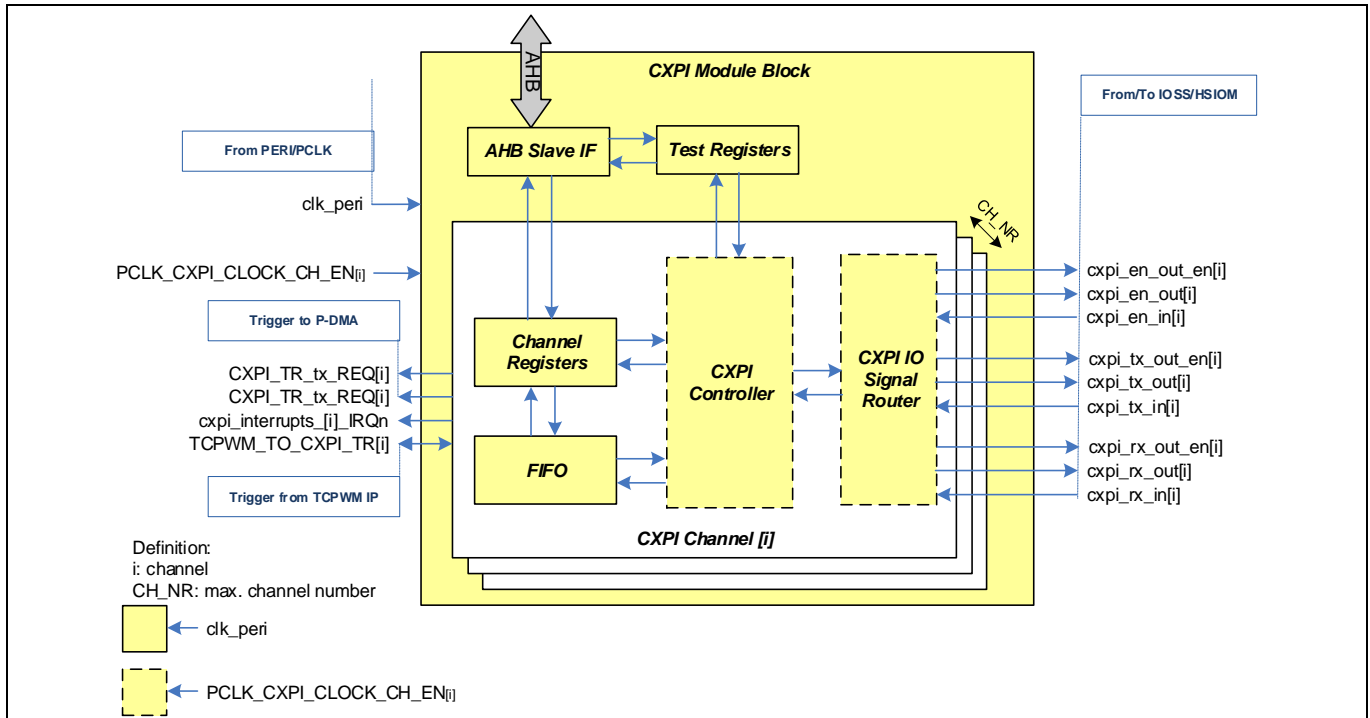

Figure 3 CXPI block diagram
- f_{clk_peri} : Peripheral clock shown as PCLK_CXPI_CLOCK_CH_EN in Figure 3